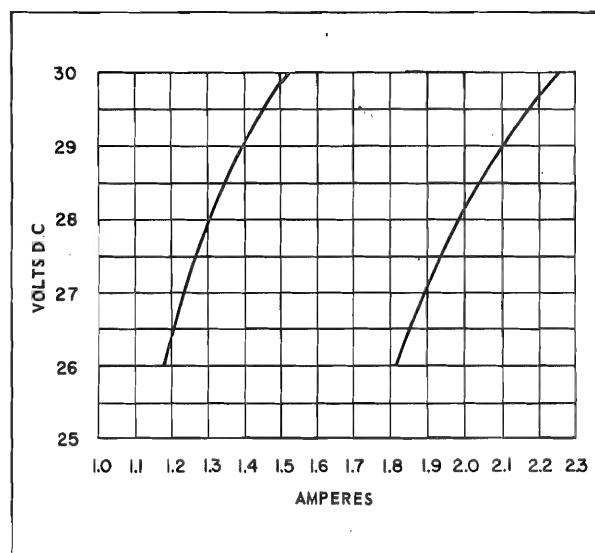

Figure 10-12. Vibrator Performance Chart
c. Amperage reading in relation to the voltage reading must fall within limits on vibrator performance chart. (See figure 10-12.)